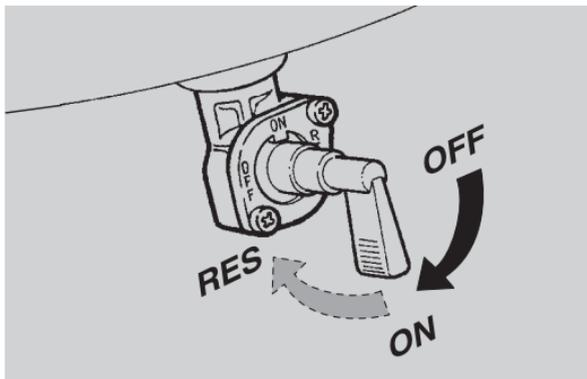

Fig. 38
- move the fuel cock to position "OFF" (Fig. 38);